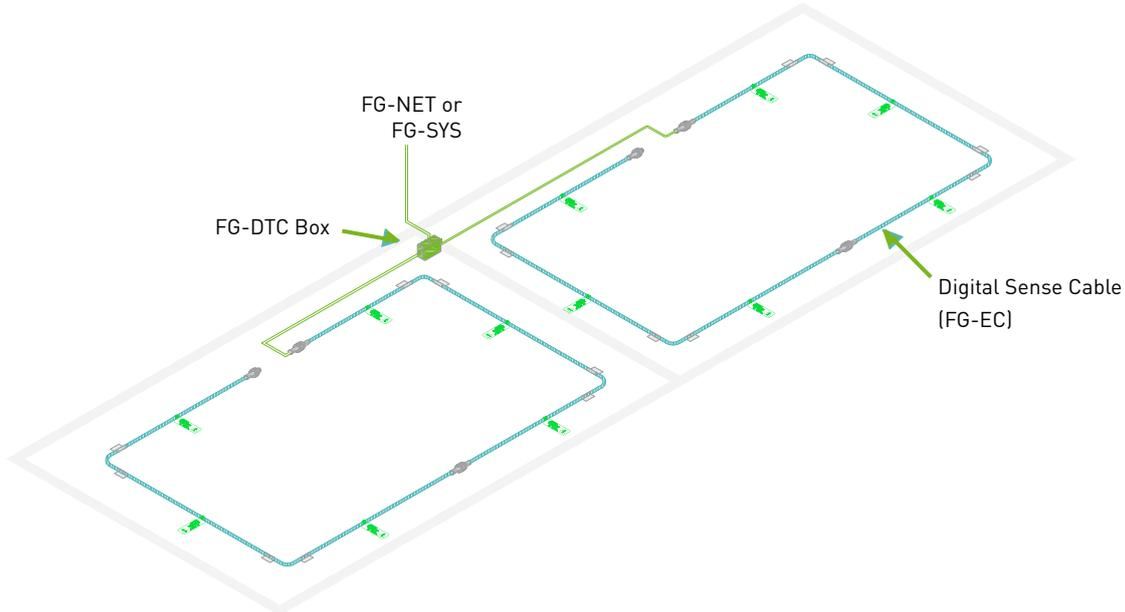

Figure 1.3.1: Layout with FG-DTC
- The digital diversion box FG-DTC makes it possible to split a detection circuit into two parts, so as to allow the system to cover more horizontal space (figure 1.3.1).